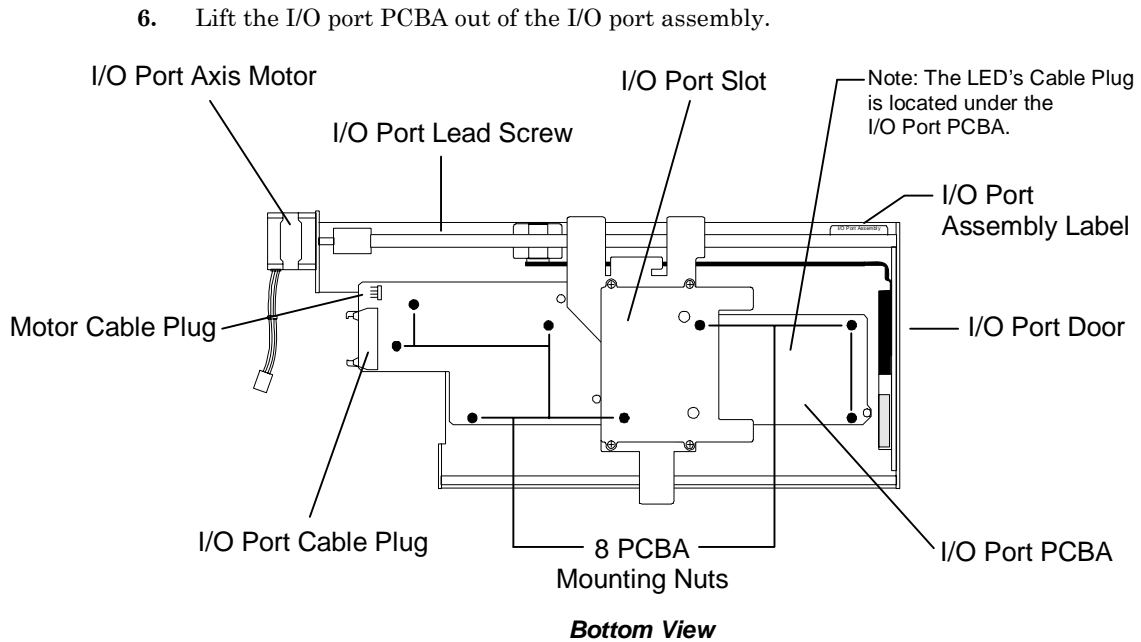

Figure 7-30 I/O Port Assembly
TLS-5000 and 58xxx models will only function correctly with 501195-02-8 Revision B (or later) I/O port assemblies. Read the I/O port assembly label (see Figure 7-30) and look for the text: "I/O Port: B" or later.
2. Gently turn the I/O port leadscrew by hand, to move the I/O port slot away from the eight PCBA mounting nuts (Figure 7-30).
5. Remove all eight PCBA mounting nuts using a 1/4-inch nutdriver (Figure 7-30).
1. If necessary, gently turn the I/O port leadscrew by hand, to move the I/O port slot away from the eight PCBA mounting screws holes in the I/O port assembly's frame (Figure 7-30).
2. Lower the I/O port PCBA into the I/O port assembly and install all eight PCBA mounting nuts (Figure 7-30).
3. Connect the MOTOR cable to the I/O port PCBA (Figure 7-30). Note that the connector is keyed for correct orientation.